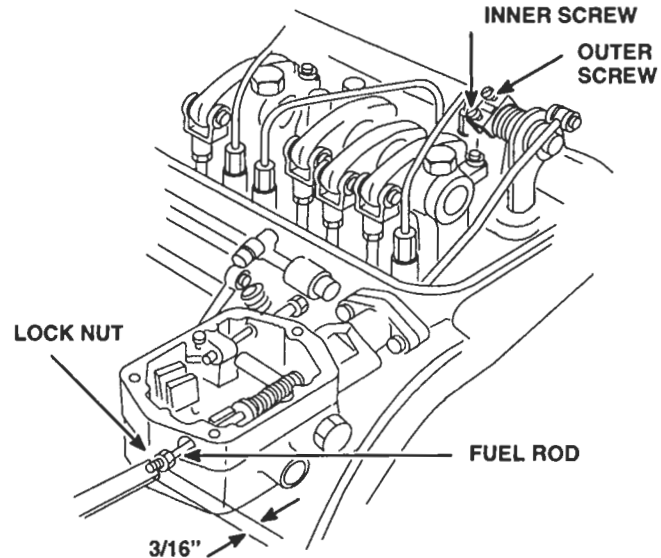

Figure 1. Adjusting Fuel Rod
1. Remove the governor cover and the rocker cover. Loosen all inner and outer injector rack (Figure 1.) control lever adjusting screws or the adjusting screws and locknuts. Be sure all control levers are free on the injector control tube.